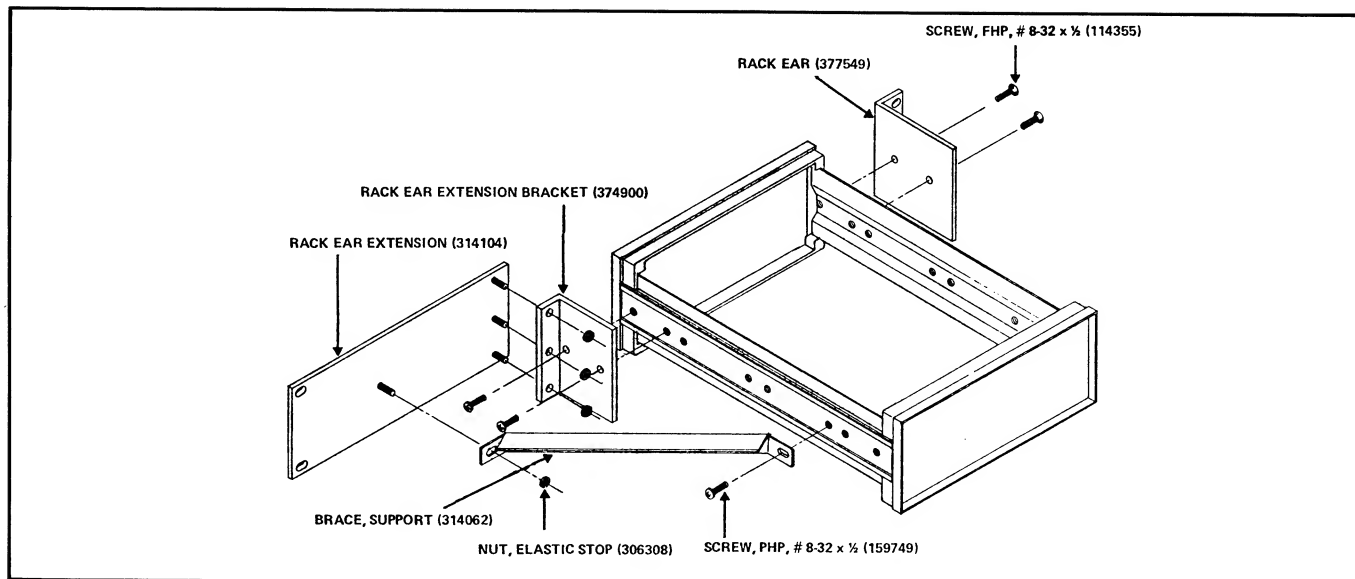

Figure 6-3. OFFSET RACK MOUNTING
- d. Attach the rack ear extension bracket to the rack ear extension using three elastic stop nuts. (See Figure 6-3).
- g. Secure the brace support between the rack extension and side of the unit as shown in Figure 6-3.